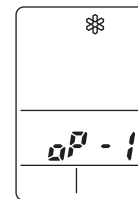

Fig. 34
- d) ✻ appears and "oP-1" blinking in the remote controller clock display area. (Fig. 34)